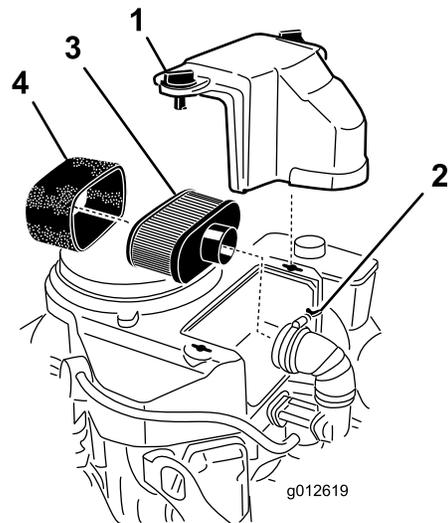

Figure 32
3. Clean around the air cleaner to prevent dirt from getting into the engine and causing damage (Figure 32).
4. Unscrew the cover knobs and remove the air cleaner cover (Figure 32).
5. Unscrew the hose clamp and remove the air cleaner assembly (Figure 32).
6. Carefully pull the foam element off the paper element (Figure 32).
1. Clean the paper element by tapping gently to remove dust. If it is very dirty, replace the paper element with a new one (Figure 32).
Do not clean the paper filter. Replace it after 200 operating hours (Figure 32). Inspect the element for tears, an oily film, or damage to the rubber seal, and replace it if it is damaged.
1. Carefully slide the foam element onto the paper air cleaner element (Figure 32).
2. Place the air cleaner assembly onto the air cleaner base or hose and secure it (Figure 32).
3. Place the air cleaner cover into position and tighten the cover knobs (Figure 32).